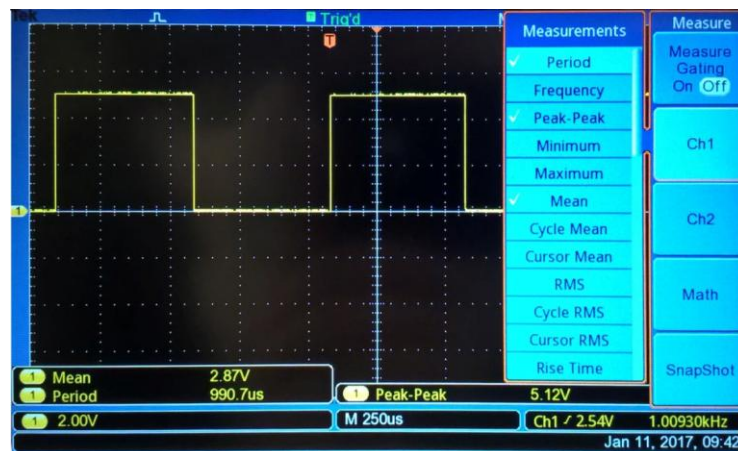

Figure 8: Some of the many measurements the TBS1052B-EDU can measure.
2. Use the **Multipurpose** wheel to turn on or off any of the available measurements. See **Figure 8**.